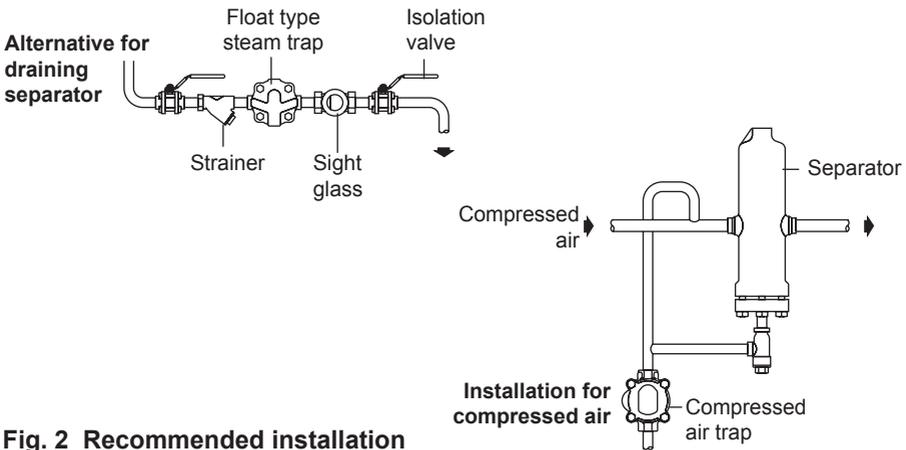
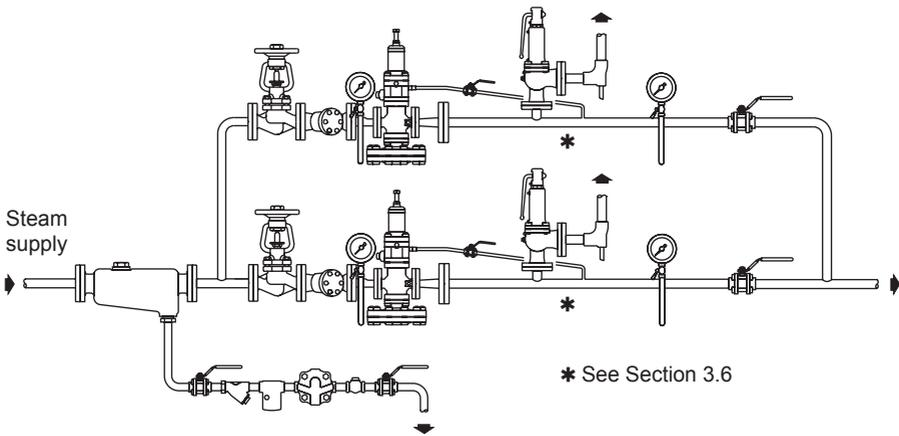
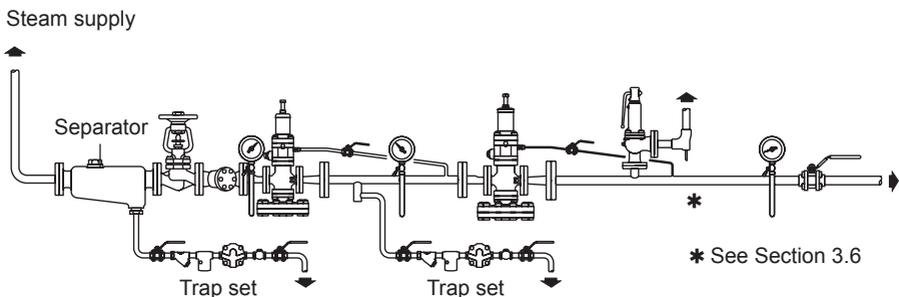
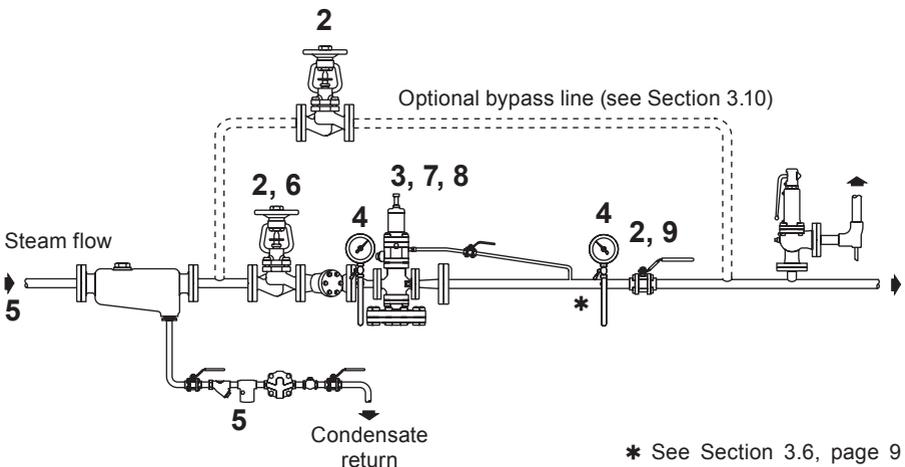

Fig. 2 Recommended installation
Fig. 3 Two pressure reducing valves in parallel
Fig. 4 Two pressure reducing valves installed in series
Fig. 6 Setting procedure sequence DP27S
3.2 Fitting (Figures. 2, 3 and 4)
The valve should always be fitted in a horizontal pipeline with the main diaphragm chamber below the line (Figure 2). To meet high capacities or widely varying loads, or where stand-by facility is required, two or more valves may be used in parallel (Figure 3). For pressure turndown in excess of 10 to 1 consideration should be given to using the two valves in series. To avoid instability pipework volume between the valves should be equivalent to at least 50 pipe diameters in length of the intermediate correctly sized pipework. To ensure adequate drainage of the space between the two reducing valves a trap set should be fitted as shown in Figure 4.
For continuous duty applications where a constant steam supply is essential then a parallel stand-by PRV station is recommended to allow for planned maintenance, see Figure 3, page 9. Alternatively a bypass line can be used (see Figure 6, page 12). It is important that the bypass should have a similar capacity to the pressure reducing valve which is achieved by choosing an appropriately sized valve or by using a reduced orifice in the line.
4.1 Setting procedure (Figure 6)